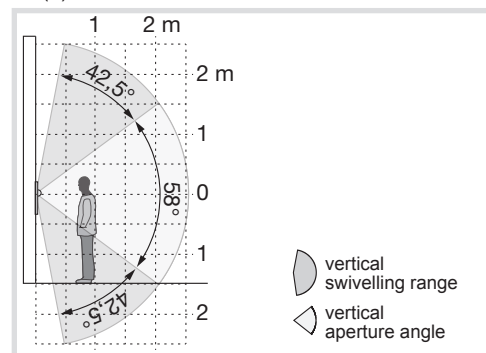

Figure 8: vertical camera orientation
- Point the camera in the right direction (figures 8 and 9).